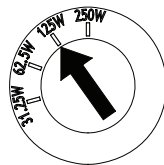

Figure 33
- Use a flathead screwdriver to change the transformer tap to the desired power level as shown in Figure 33.